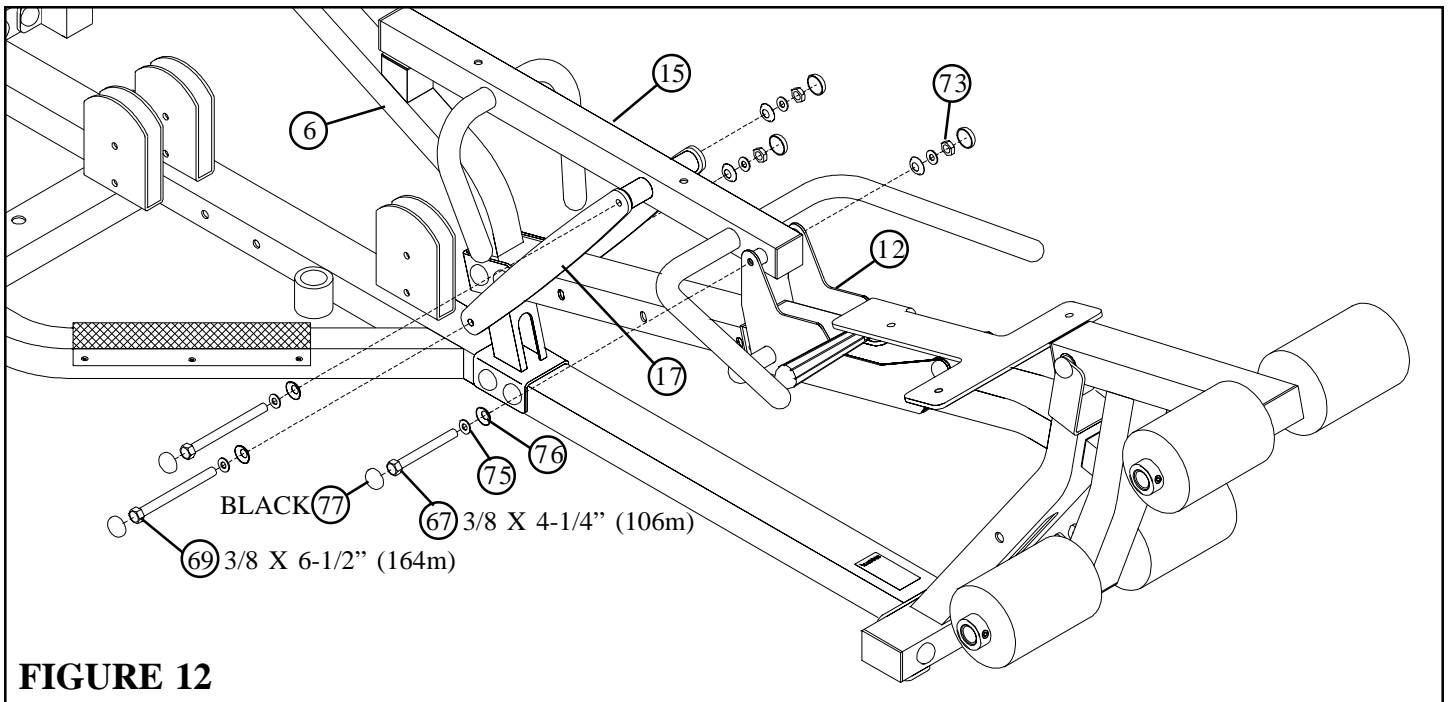

FIGURE 12
- **SECURELY** assemble the BACK PAD SUPPORT (15) to the ADJUSTABLE SEAT (12) using two BLACK RH CAPS (77), one 3/8 X 4-1/4" BOLT (67), two 3/8" SAE WASHERS (75), two 3/8" RH WASHERS (76) and one 3/8" LOW HEIGHT LOCK NUT (73) as shown in FIGURE 12.
- **SECURELY** assemble the BACK PAD SUPPORT (15) to the UPRIGHT SUPPORT (6) using two BACK PAD ADJUST PLATES (17), four BLACK RH CAPS (77), two 3/8 X 6-1/2" BOLTS (69), four 3/8" SAE WASHERS (75), four 3/8" RH WASHERS (76) and two 3/8" LOW HEIGHT LOCK NUTS (73) as shown in FIGURE 12.